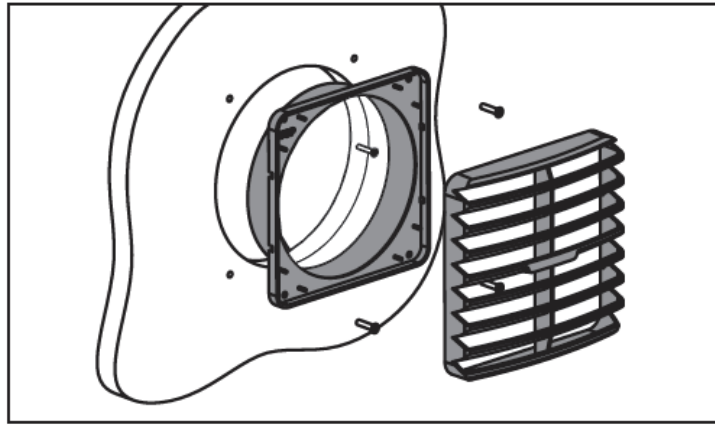

Fig. 20
3. Fix Grille base with four 6 G screws and snap 11 the Grille louvres over the Grille base as shown in Fig. 20.